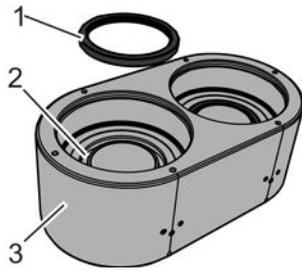

Fig. 115: Removing the shaft seal
16. ➤ Remove the shaft seal (Fig. 115/1) from the seal seat (Fig. 115/2) of the bearing housing (Fig. 115/3), clean with a lint-free cleaning cloth, check for damage and place to the side.